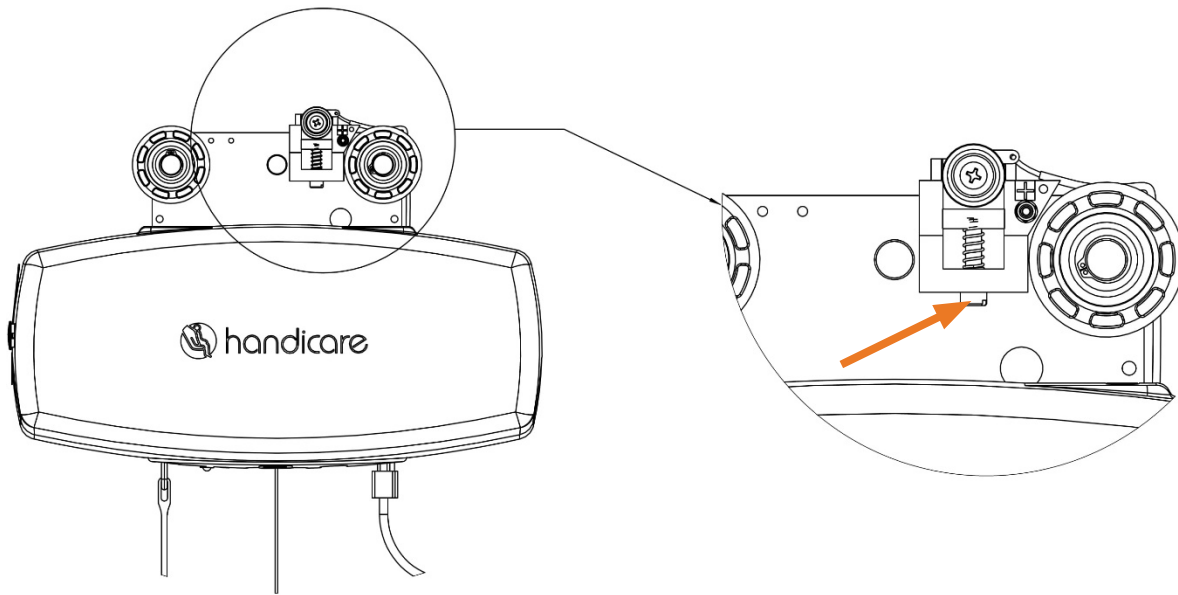

Figure 69: **Ceiling Lift Spring-Loaded Contact Screw**
- If necessary to improve contact with the TransStrip, adjust the spring-loaded screw (Figure 69) on the ceiling lift.